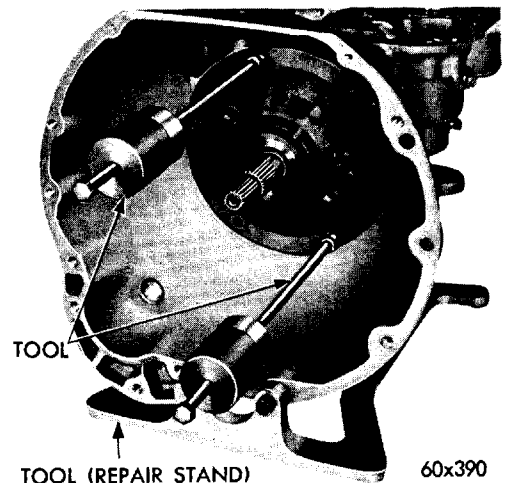

Fig. 31—Removing Front Oil Pump and Reaction Shaft Support Assembly
(1) Remove the front oil pump housing retaining bolts.
(2) Attach Tool C-3752 to pump housing flange as shown in Figure 31, thread the screws of the tool into the flange holes at 11 and 4 o'clock locations.
(3) Bump outward evenly on the two "knocker weights" to withdraw oil pump and reaction shaft support assembly from the case.